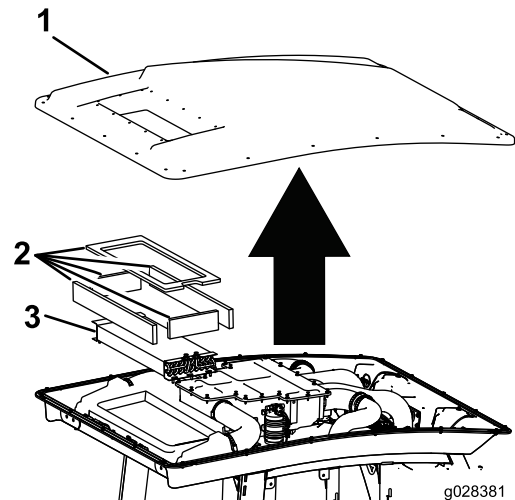

Figure 95
3. Remove the cabin roof of the cab by removing the 22 bolts that secure the roof (Figure 95).
4. Remove the air filters (Figure 95).
5. Remove and clean the air-conditioning coils (Figure 95).